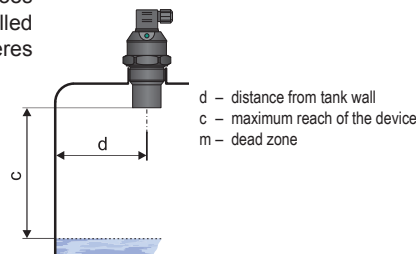

Fig. 3: Distance of the device from the tank wall
b) The minimum dimensional parameters when installing into the lid or the ceiling of the tank are listed in Fig. 3.